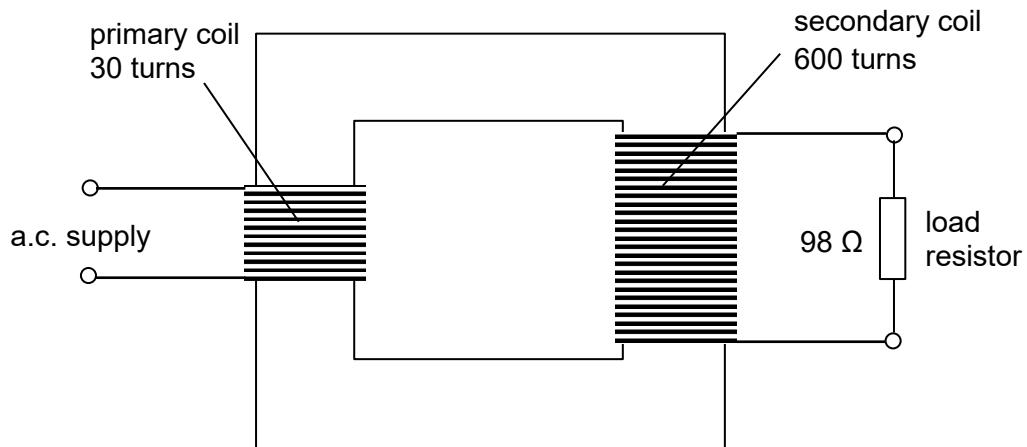

Fig. 8.5
- (d) An alternating current (a.c.) supply is connected to a laminated iron-cored transformer. The transformer consists of a primary coil of 30 turns and a secondary coil of 600 turns, as shown in Fig. 8.5.